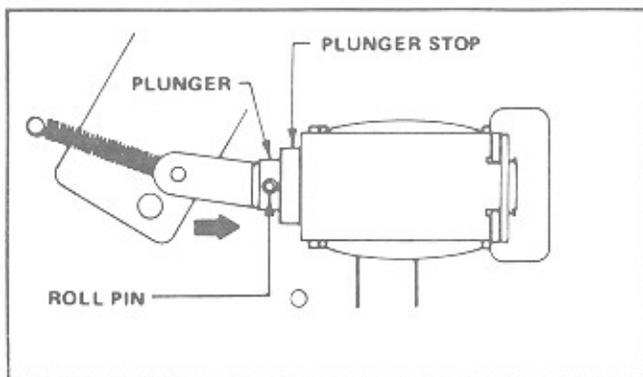

Figure 3-7. Sprag Assembly (Plunger)
1. Refer to figure 3-7 in the following steps. Depress solenoid plunger until the roll pin bottoms on the plunger stop (Actuate by pressing on plunger).